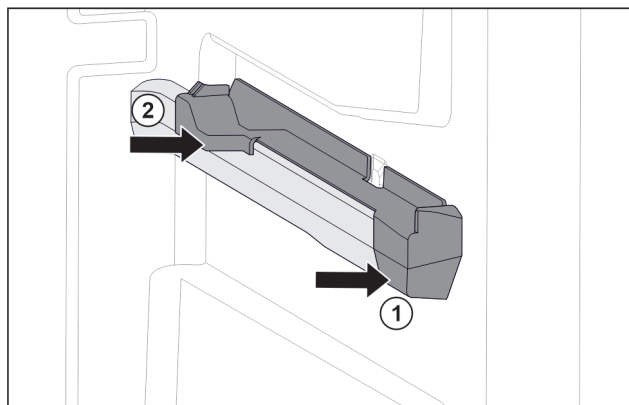

Fig. 47 Attachment on the right molded rib
- Position attachment on molded rib at the front. Fig. 47 (1)
- Press on attachment at the back. Fig. 47 (2)